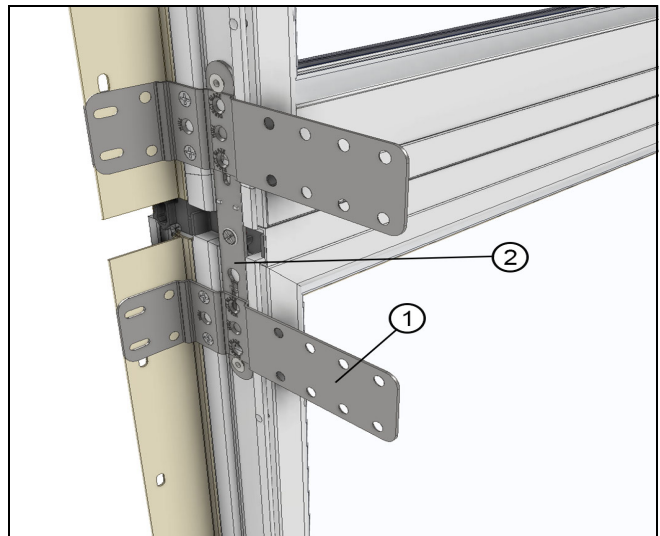
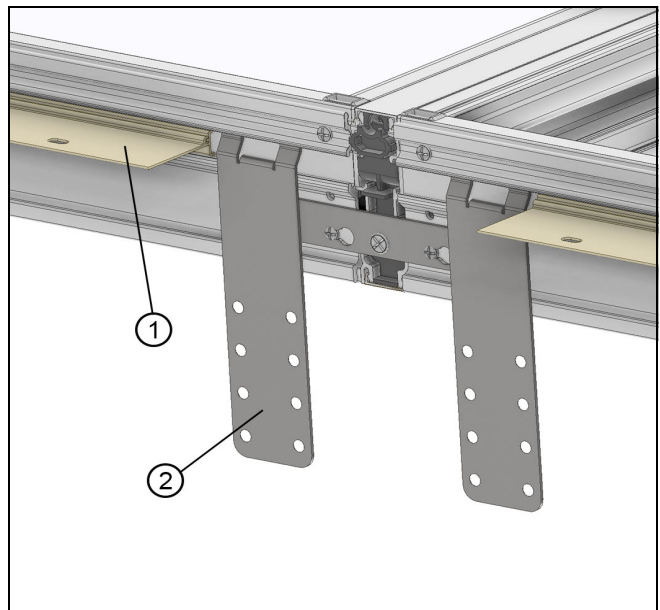

Figure 11
Figure 12
6. For installing a factory mulled unit, apply 90° bent structural brackets 1-1/8" from the mullion on both sides of all jamb and head jamb mullion joints. This applies to nail fin or structural bracket installation. See Figure 11. For sill mullion joints, slide flat sill structural brackets into sill T-slot and position one on either side of each mullion joint. If mulled assembly has nailing fin, remove the nailing fin at the sill prior to sliding brackets on. Cut sill nail fin at each mullion joint location and shorten the ends by 3"- 3-1/2" near each mullion to allow for the brackets. Slide brackets and nail fin pieces into the sill T-slot. See Figure 12.